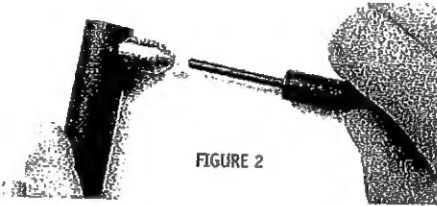

FIGURE 2
1. REMOVE SPENT PRIMERS using decapper pin and breech plug wrench to hold module (see FIGURE 2).